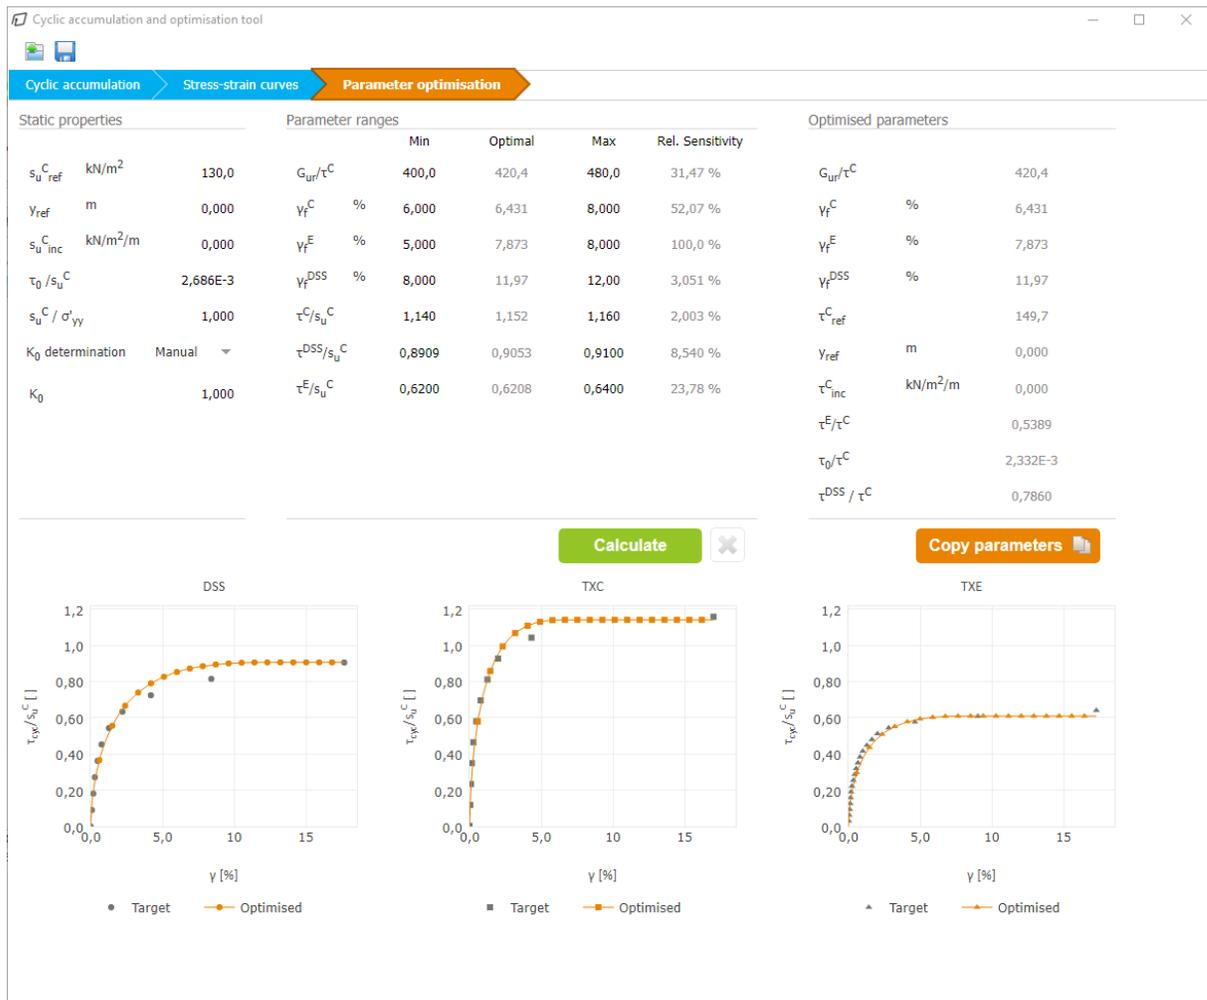

Figure 141: Optimised parameters for total load
4. Click **Calculate** to obtain optimised parameters (Figure 141 (on page 162) and column Optimised value of Table 23 (on page 160)).
After a few seconds, the optimal values are shown in the corresponding column in the Parameter ranges table. Based on these values, the optimised parameters are calculated and listed in the right-hand side of the table as shown in Figure 141 (on page 162)